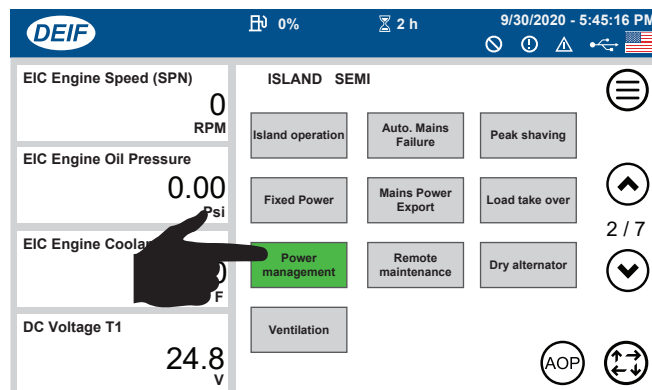

Figure 132. Screen 2 of 7 (Power Management Button)
17. Verify that **screen 2 of 7** is displayed (Figure 132), then press the **Power Management** button.